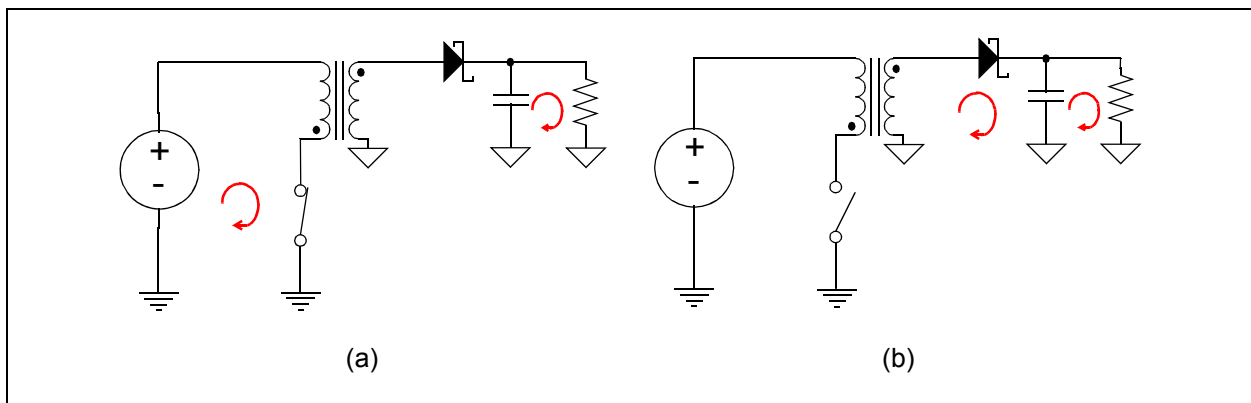

FIGURE 1-2: The Two Configurations of the Flyback Converter In Operation.
- When the switch is closed (Figure 1-2, a), the primary winding of the transformer is connected to the input voltage source. The primary current and magnetic flux in the transformer increases, storing energy in the transformer's core. The voltage induced in the secondary winding is negative, so the diode is reverse-biased. In this phase, the output capacitor supplies energy to the output load (LDO's input, in this application).
- When the switch is opened (Figure 1-2, b), the primary current and magnetic flux drops. The secondary voltage is positive, forward-biasing the diode, allowing current to flow from the transformer to the capacitor and to the load.